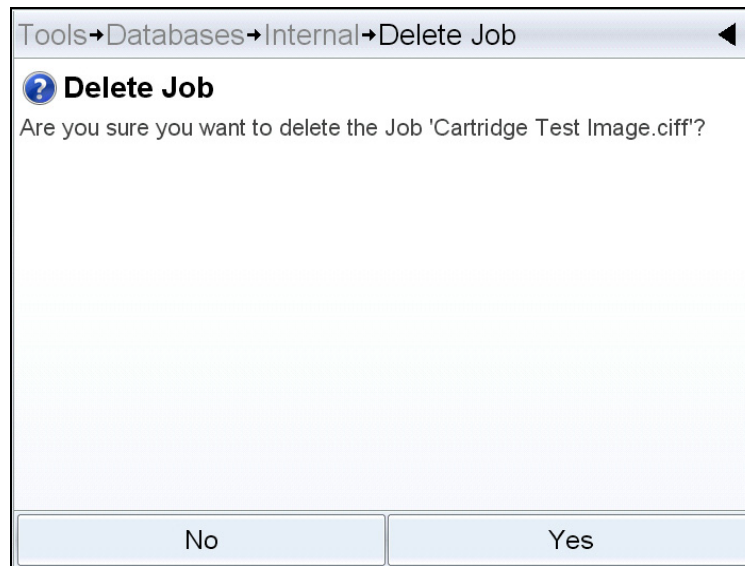

Figure 6-26: Confirmation Screen
- 6 Confirm the job to be removed (see Figure 6-26).